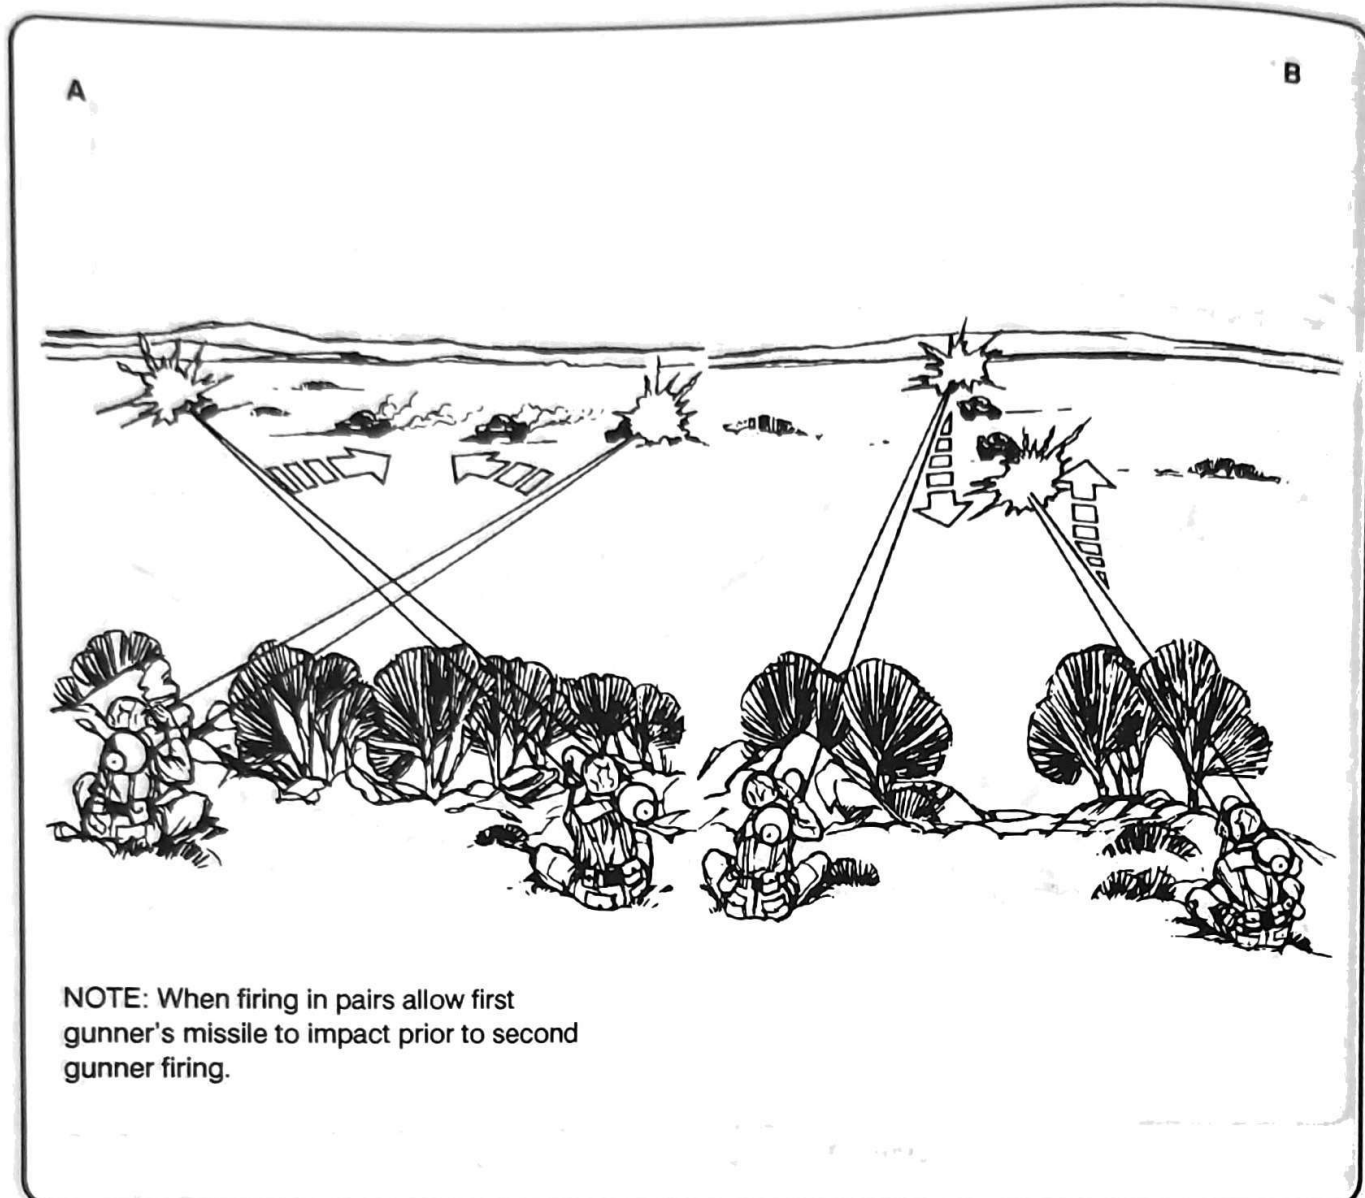

Figure 3-25. Fire patterns.
e. **Fire Patterns.** Fire patterns describe the relationship between firing Dragons and their targets. These patterns can be used in fire commands or fire plans, within the section or within the team. They can also be used with other control measures such as priority of fires. Two basic patterns are cross fire and depth fire. (See Figure 3-25.)
used to obtain flank shots, which are desirable; it increases the chance of a kill and assists in avoiding detection when the enemy is moving straight at the Dragon. Each Dragon engages a target at a diagonal to its position, with flank Dragons engaging targets on the opposite flank. As targets are destroyed, fire is shifted to the center of the enemy formation. (See A, Figure 3-25.)
(2) *Depth fire.* Depth fire is used when targets are exposed in depth. Dragons on one side engage the nearest targets, while Dragons on the other side engage the farthest targets. Fire is then shifted toward the center of the formation. This can be done by unit SOP or as specified in the section leader's order. (See B, Figure 3-25.)
(3) *Changing or concurrent fire patterns.* Fire patterns are changed or used concurrently with another fire pattern. This may be necessary when the enemy adjusts his formation after being engaged to ensure maximum coverage of an enemy formation. (See Figure 3-25.)